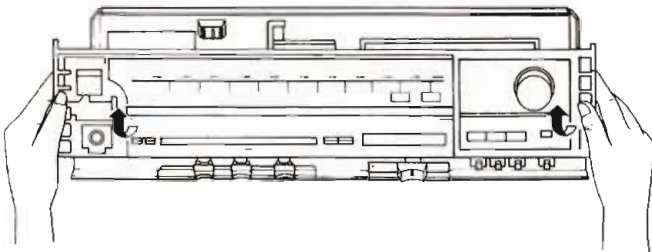

Fig. 7
6. Remove the front panel in the direction of the arrow as in Fig 7.